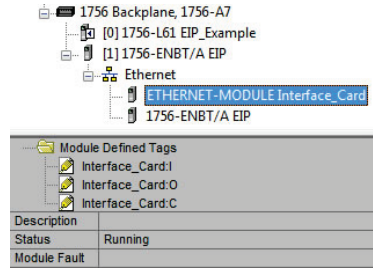

Figure 56: Online Module Status
- 7) Switch to online mode and download the project to the PLC. Verify that the newly-added inverter is available and operating correctly by observing any indications shown on the inverter’s icon. When the inverter’s icon is selected, its status and any available error messages will be displayed in the area below the project tree. Refer to Figure 56. Also confirm that the interface card’s “Network Status” LED should be solid green, indicating an “online/connected” state.